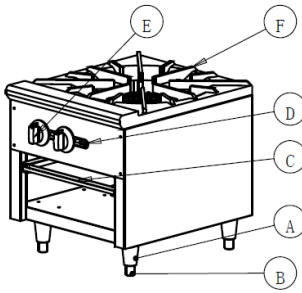

Figure 1. Features and Controls.
5. Install the four (4) legs (A) and feet (B) on the equipment. See Figure 1
2. Turn off all gas control knobs (E). See Figure 1.
4. The pilot burner must be lit at the end of the tube. Hold an ignition source through the pilot light hole (D) in the front panel at the pilot tube. When the flame is established remove ignition source.
1. Hold the leg (A) and rotate the adjustable feet (B) so the equipment is level. See Figure 1.
2. Check the drip tray (C) frequently.
3. To ignite the burners, depress and turn the gas control knob (E) to 'High' position.